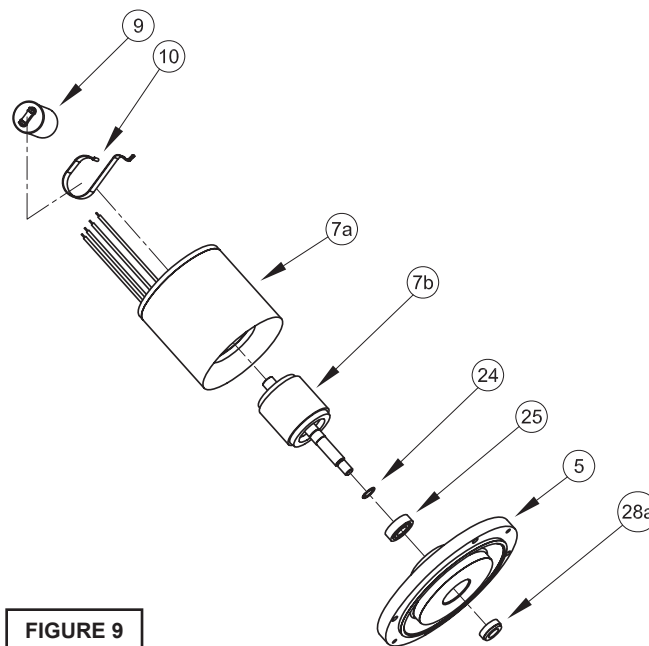

FIGURE 9
Remove the motor bolts and lift motor stator from seal plate (5). Disconnect capacitor leads from capacitor (9, single phase units). Examine bearing (25) and replace if required. If replacement is required, remove bearing (25) from motor shaft using a wheel puller or arbor press, see Figure 9.